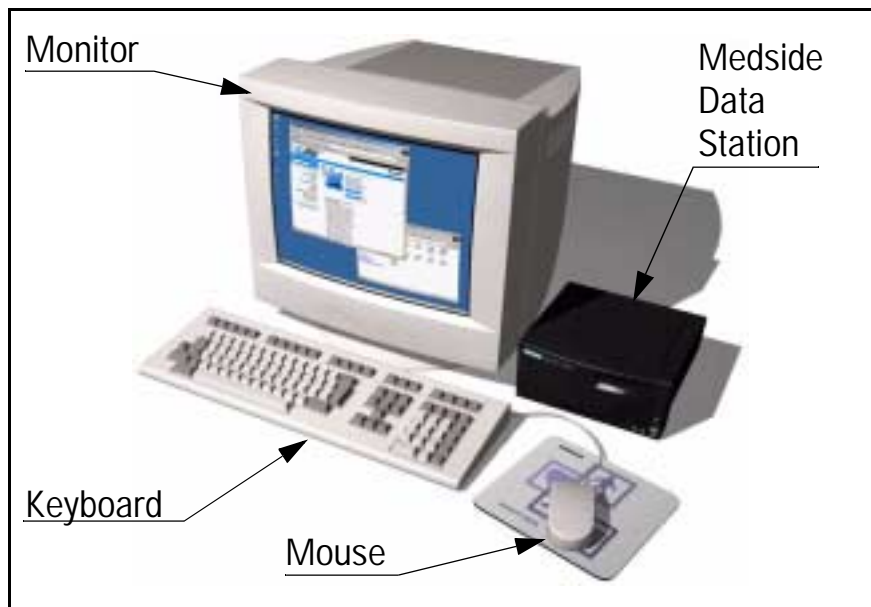

Figure 4-3 Medside Data Station (table top configuration)
- 1) Set MDS on flat clean surface, and within close proximity of monitor, keyboard, and mouse. See Figure 4-3.
- 1) Set keyboard and mouse in close proximity to MDS. See Figure 4-3 on page 8.